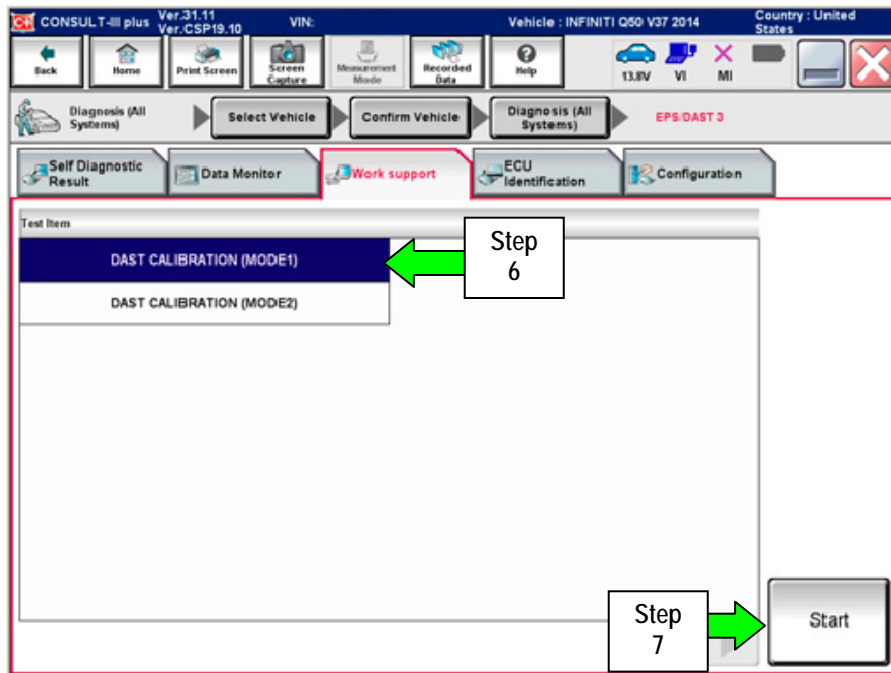

Figure 2
6. Navigate C-III plus to **EPS/DAST 3 >> Work support >> DAST CALIBRATION (MODE1)**. See Figure 2.